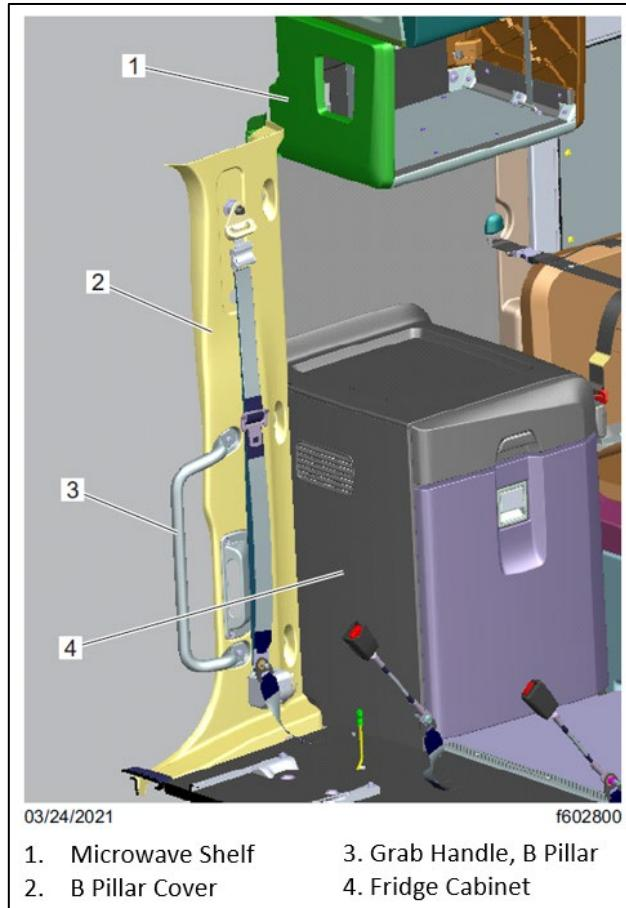

Fig. 34, B-Pillar, Microwave Shelf, and Refrigerator Cabinet Location
19. See **Fig. 34**. At the RH side B pillar, install the grab handle, seat belt mounting, and pillar covers. For instructions on removal of seat belt assembly, refer to **Section 91.01** of the *New Cascadia™ Workshop Manual*.